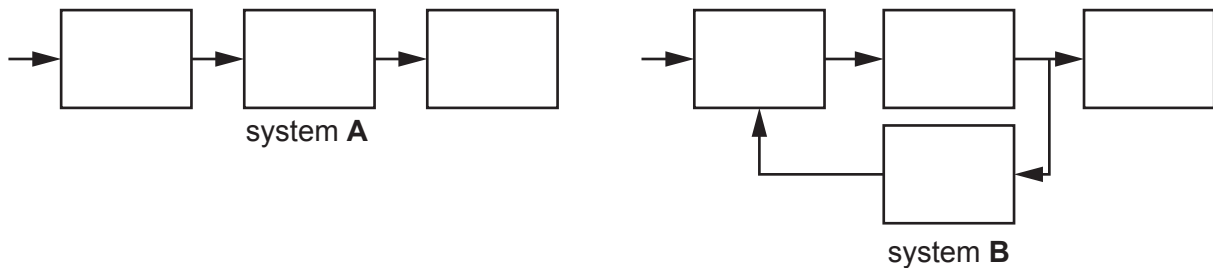

Fig. 3.1
- 3 Fig. 3.1 shows block diagrams of two types of control system.